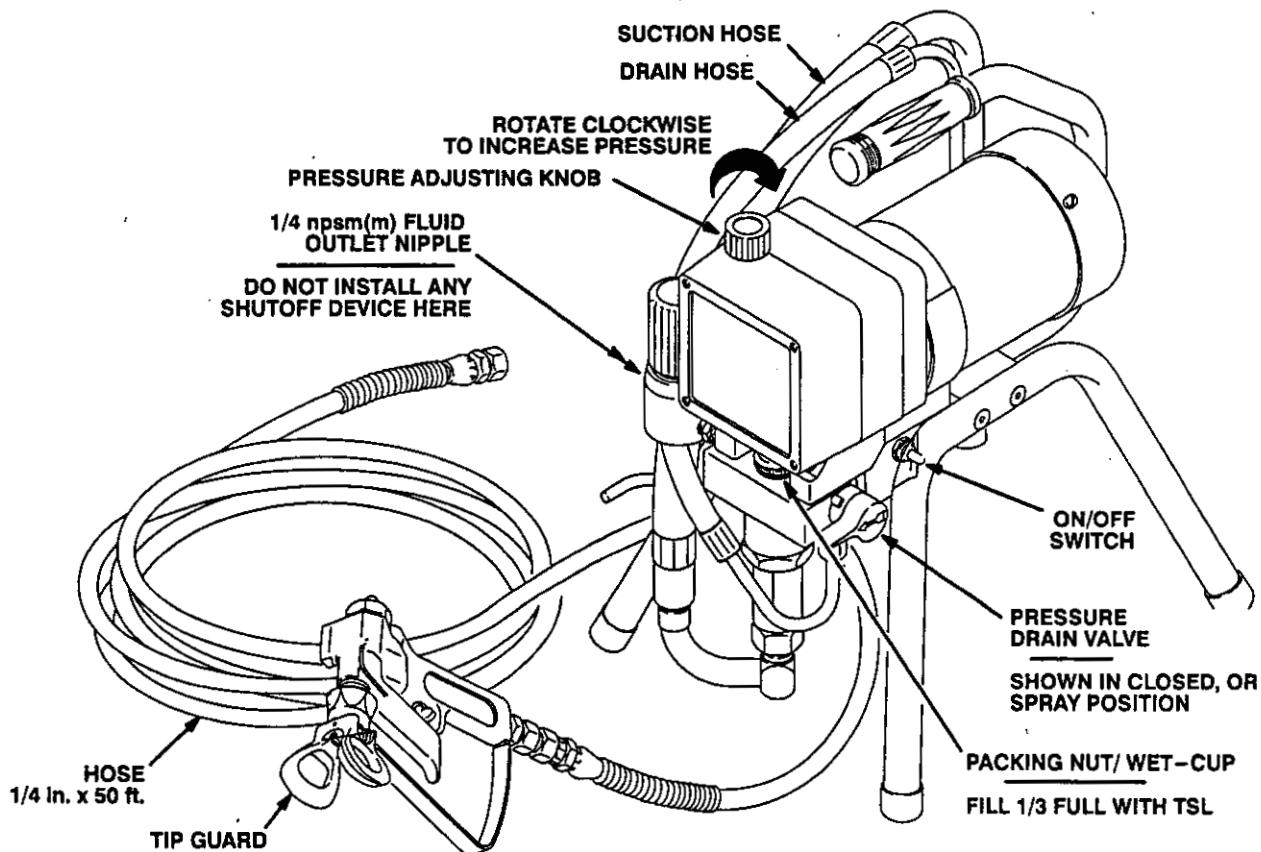

Fig 9
**NOTE 2:** Refer to Fig 9 and the other figures referenced in the text as you start the sprayer.